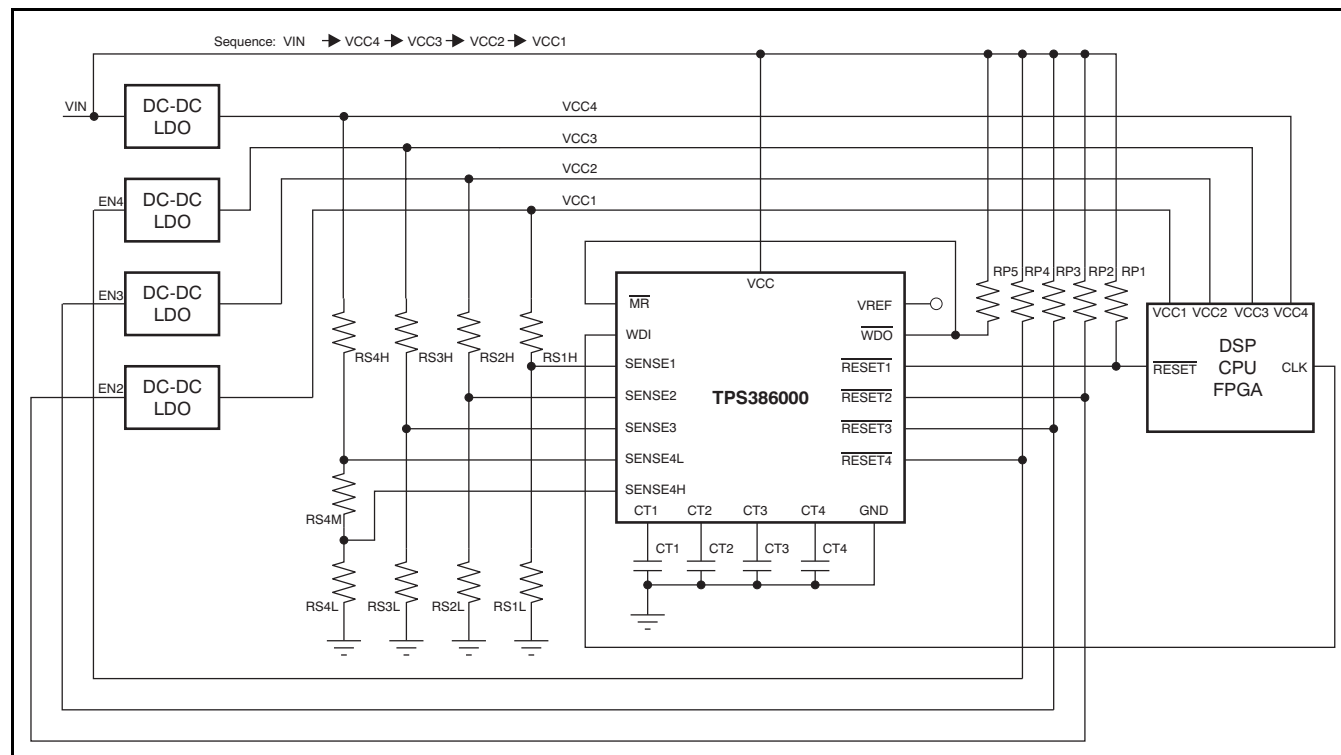

Figure 29. Typical Application Circuit
design practice to place a 1nF to 10nF bypass capacitor at the SENSEm input in order to reduce sensitivity to transients, layout parasitics, and interference between power rails monitored by this device. A typical connection of resistor dividers are shown in Figure 29. All the SENSEm pins can be used to monitor voltage rails down to 0.4V. Threshold voltages can be calculated by following equations:
For legacy applications where the watchdog timer timeout causes $\overline{\text{RESET1}}$ to assert, connect $\overline{\text{WDO}}$ to $\overline{\text{MR}}$; see Figure 29 for the connections and see Figure 32 and Figure 33 for the timing diagram.
- Changed caption for Figure 29 16